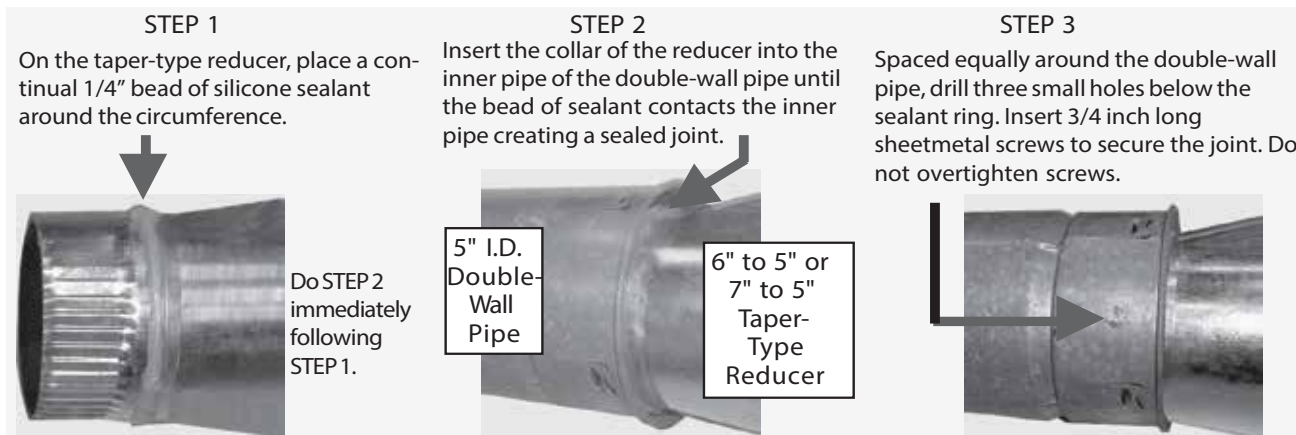

Figure 9. Joining Double-Wall (Type B) Pipe to Single-Wall or Category III Vent Pipe Using Tapered Reducer
- **To seal the joint between the terminal section of double-wall vent pipe and a single-wall or Category III vent pipe:** follow the illustrated step-by-step instructions in Figure 9. Make this connection no more than 6 inches (152 mm) from the concentric adapter box.
- Attach 5-inch double-wall vent pipe to 6- or 7-inch single-wall or Category III vent pipe run using tapered reducer (see Figure 9).